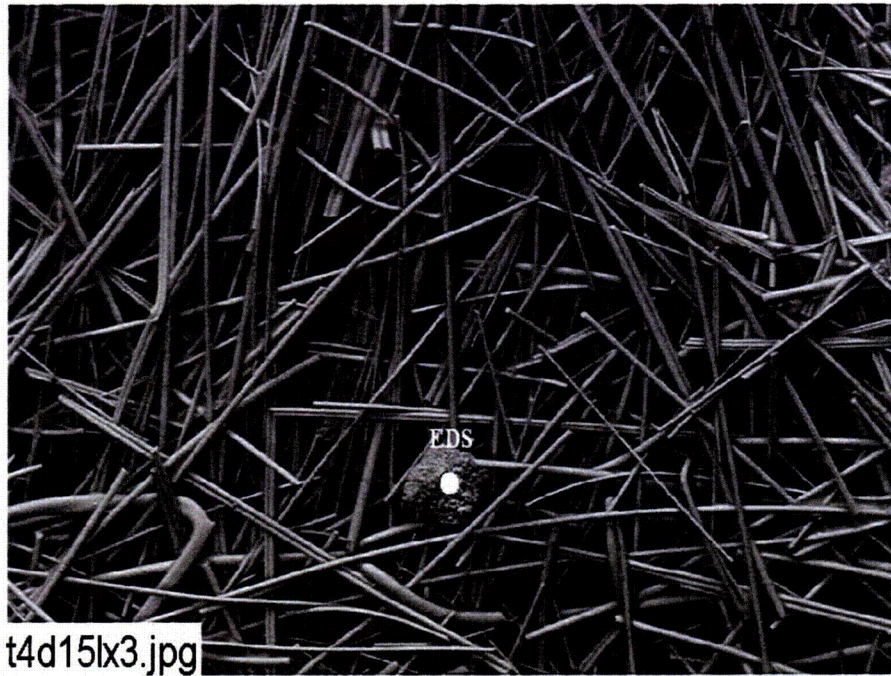

Figure B1-1. Annotated environmental SEM image magnified 100 times for a Test #4, Day-15 exterior low-flow fiberglass sample. (t4d15lx3.jpg)
- Figure B1-1. Annotated environmental SEM image magnified 100 times for a Test #4, Day-15 exterior low-flow fiberglass sample. (t4d15lx3.jpg)..... B1-4
- Figure B1-2. EDS counting spectrum for the particulate deposit on fiberglass shown in Figure B1-1. (t4d15lx2.jpg) B1-4